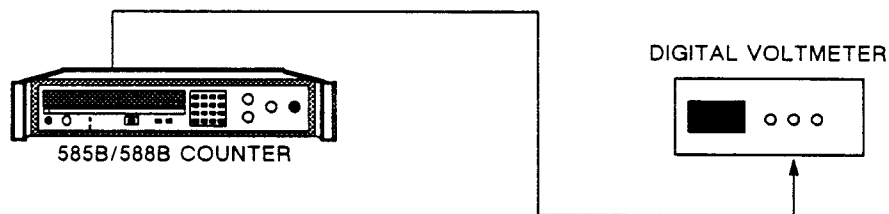

Figure 7-2. Power Supply Adjustment Setup.
1. Set up equipment as shown in Figure 7-2 and described below.